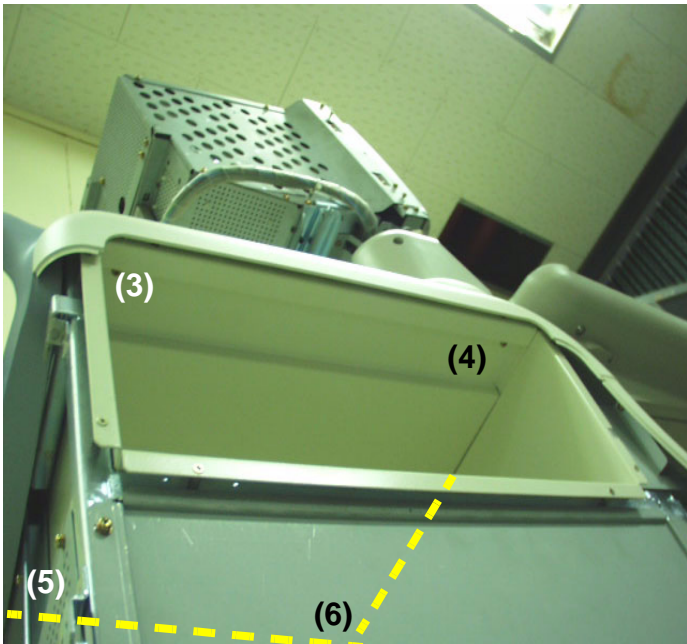

Figure 8-53    Unscrew 4 screws from the bottom
5.) Unscrew four screws (3-6) from the bottom of the Top cover. Refer to Figure 8-53.